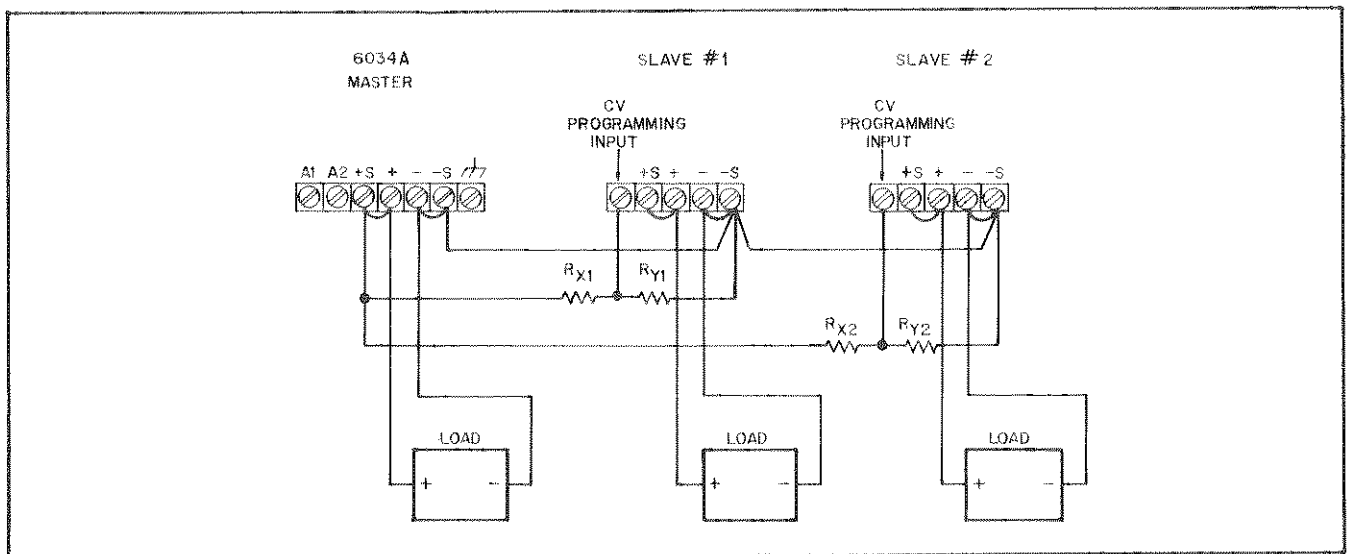

Figure 3-9. Auto-Tracking Operation
3-53 Figure 3-9 shows the interconnections required to operate two or more units in auto-tracking mode with a 6034A as the master supply. This mode of operation allows multiple supplies that share a common output bus (negative or positive) to power separate loads and have their output voltages simultaneously programmed by the voltage and cur-
**3-55 Resistor Values.** The method for determining the values of  $R_X$  and  $R_Y$  in Figure 3-9 is similar to that given in Paragraph 3-45 for auto-series mode. First choose the ratio of the slave output voltage to the master output voltage, select a value for  $R_Y$ , and then determine the value for  $R_X$  by solving the equation: